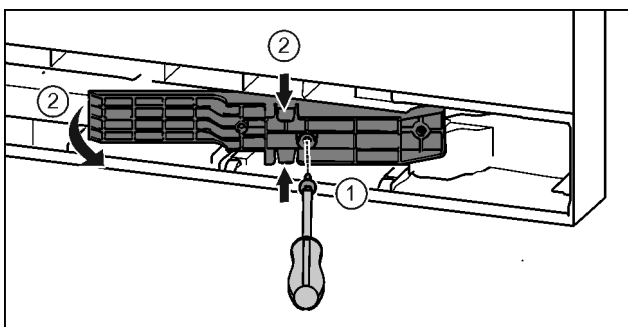

Fig. 20*
- ▶ Loosen the screws with the T15 screwdriver.* Fig. 20 (1)
- ▶ Pull out the adapter.* Fig. 20 (2)